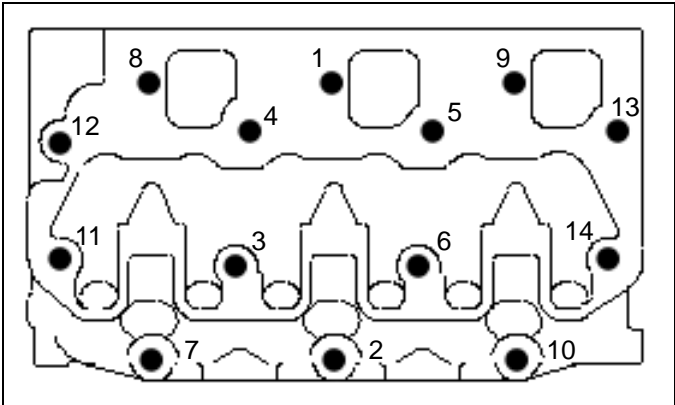

Fig. 4-18
- 3. Tighten the cylinder head in several steps in the order as shown in Fig. 4-18 and tighten to the specified final torque